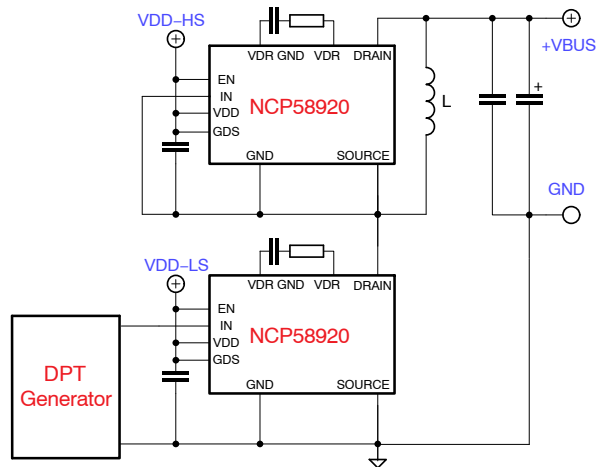
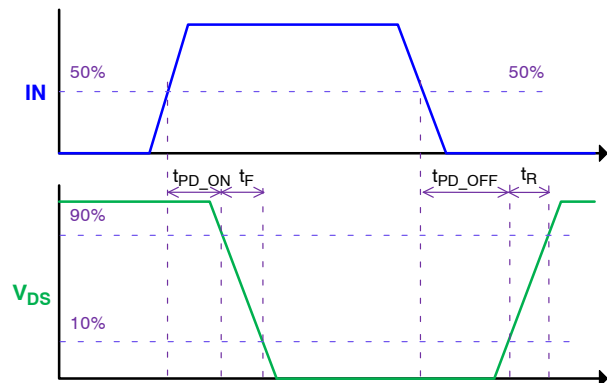

Figure 37. Half-bridge Stage Arranged as Double-pulse tester Circuit
Figure 38. Measurement Reference for Determining Timing
14. Refer to Figure 37 and Figure 38.
A typical approach to determine timing parameters of switching devices is to test them in double-pulse tester or use double-pulse testing technique. The half-bridge is a basic switching structure adopted in a wide range of converter topologies, that is easy to convert into double-pulse tester. Figure 37 shows principle schematic diagram of circuit (double-pulse test) that is used to measure switching parameters. The low-side device NCP58920 is the part that actively switching. When the device is turned on, the Inductor current is built to the certain level. The inductor current for this switching interval is almost the same as Drain current and its level is basically related to +VBUS Voltage, Inductance, and turn-on pulse width (the initial current must be considered). When Low-Side device is turned-off, inductor current cannot be interrupted (or cannot change direction), so the high-side device NCP58920 naturally turns-on, operates in third quadrant and its function is the same as freewheeling diode which enables inductor current re-circulation. Operation in the third quadrant should be well considered to avoid generating excessive losses and thus device overheating. Dedicated sequence of pulses creates operating conditions that are sufficient for generating switching waveforms and measuring required parameters. The specific timing measurement is shown in Figure 38.
propagation delay of the driver from when the input goes high, measured at 50%, to when the GaN HEMT starts turning-on, while its V_{DS} voltage drops to 90% of +VBUS. The fall time is the time that takes for Switch V_{DS} Voltage to slew between 90 percent and 10 percent of +VBUS voltage. The R_{ON} (Turn-on) resistor value has significant impact on Turn-on slew rate while the Turn-on propagation delay influence is minor. The timing definition of the turn-off transition also has two components; Driver to Switch Turn-off propagation delay and V_{DS} Voltage rise time. Reference levels are the same, however difference lays in opposite order. For better explanation reference waveform is depicted in Figure 38.